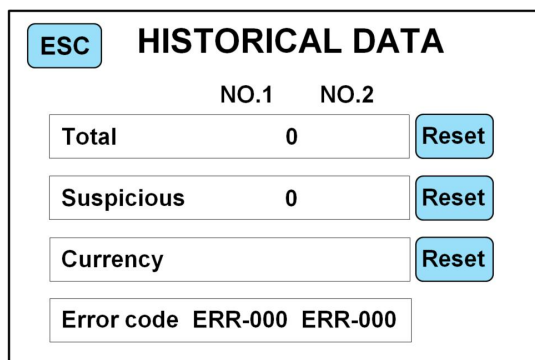

Figure 52
3) Press the “Reset” key corresponding to the right to clear the data, and the interface will be displayed as shown in Figure 52 below: